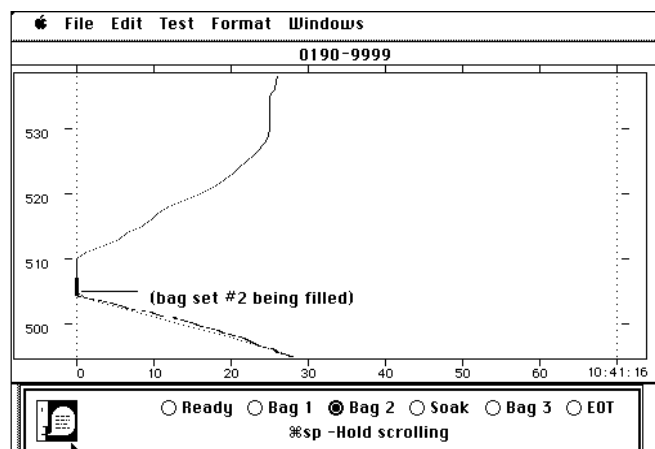

Figure 17
- 414 At the 505-second point of the UDDS, the VDA will automatically switch to the second set of sample bags. See Figure 17.